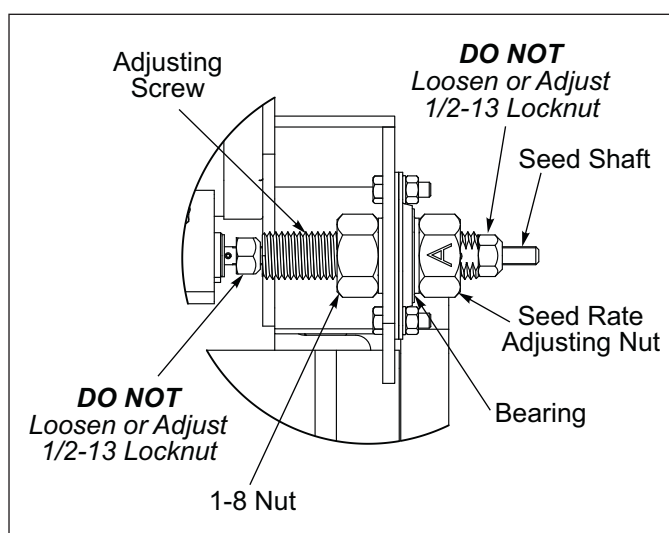

Figure 5-8: Seed Box Seed Rate Adjustment
All Seed Meters must be set the same to ensure uniform seeding. To check, set the Seed Rate Adjusting Nut to 0-A. The "A" on the Seed Rate Adjusting Nut is positioned over the "0" (the nut covers half of the "0") and snug against the Bearing. **See Figure 5-8.**
1. 1/2-13 Locknuts on both ends of the Adjusting Screw are used to adjust all Seed Meters the same amount. **See Figure 5-8.** To adjust Seed Meters to be closed at "0A", loosen 1/2-13 Locknuts and set Adjusting Screw to "0A". Slide Seed Shaft to close all Seed Meters. Tighten 1/2-13 Locknuts against Adjusting Screw.